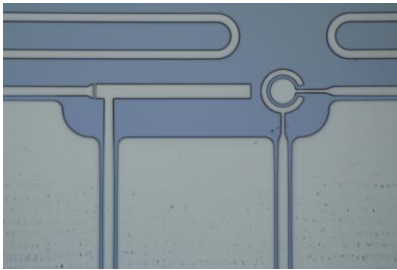
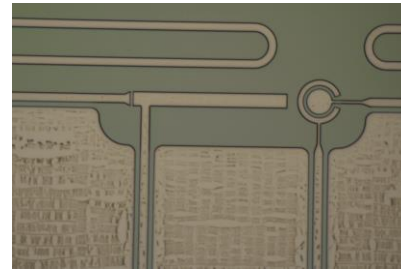

Figure 1. Widened waveguides when using the right base dose during exposure.
Figure 2. Resist remaining on the design due to PEC base dose lowering during exposure.
The base dose of a process is defined as the required dose to expose a large grating at 50% density and remove the photoresist. This means that the grating is completely cleared from the resist. However, the dose modulation implemented by proximity effect correction (PEC) tends to lower the exposure dose applied to the structures. As a consequence, the critical dimension (CD) of the grating is not on target (see Fig. 1), and the resist remains in regions where the dose is lower than the base dose (see Fig. 2).